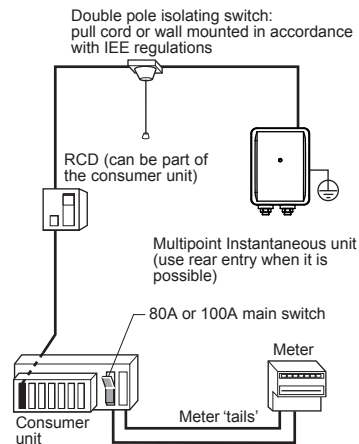

Figure 4
2. has a spare fuse way which will take the fuse/mcb you need to fit - (see figure. 4). If so, you can wire the Multipoint Instantaneous direct to the spare fuse of your consumer unit via a suitably rated isolating switch- (see figure 4). Note that not all consumer units will accept a 35/40/45A sized fuse.